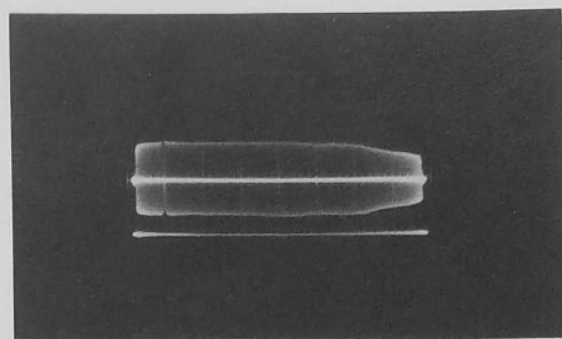

Figure 22. Output, Linearity Checker, .3V Sync. Marker at 8 mc. 60 Cycle Sweep Rate
9. Connect the marker from the video sweep generator, through a 1K resistor to the r-f input of the linearity checker. Terminate with 75 ohms. Check that the sweep signal to the Video Amplifier is flat to 8 mc. (See Figure 22.)